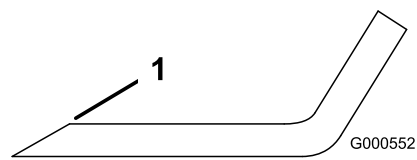
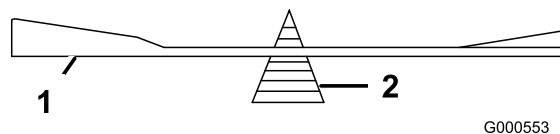

Figure 39
Figure 40
1. Use a file to sharpen the cutting edge at both ends of the blade (Figure 39). Maintain the original angle. The blade retains its balance if the same amount of material is removed from both cutting edges.
2. Check the balance of the blade by putting it on a blade balancer (Figure 40). If the blade stays in a horizontal position, the blade is balanced and can be used. If the blade is not balanced, file some metal off the end of the sail area only (Figure 39). Repeat this procedure until the blade is balanced.